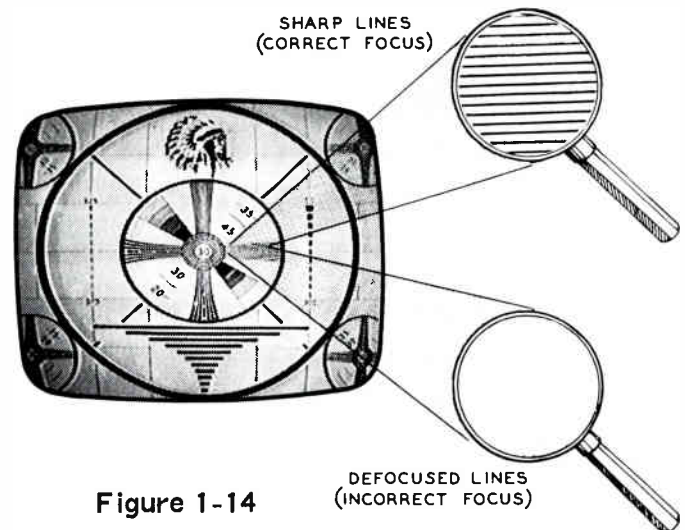

Figure 1-14
- (✓) Adjust FOCUS coil L704 for the sharpest separation between the trace lines in the center of the picture as shown in Figure 1-14. You will find that you have to get quite close to the picture tube to see these individual lines and to judge when they are most sharply defined.